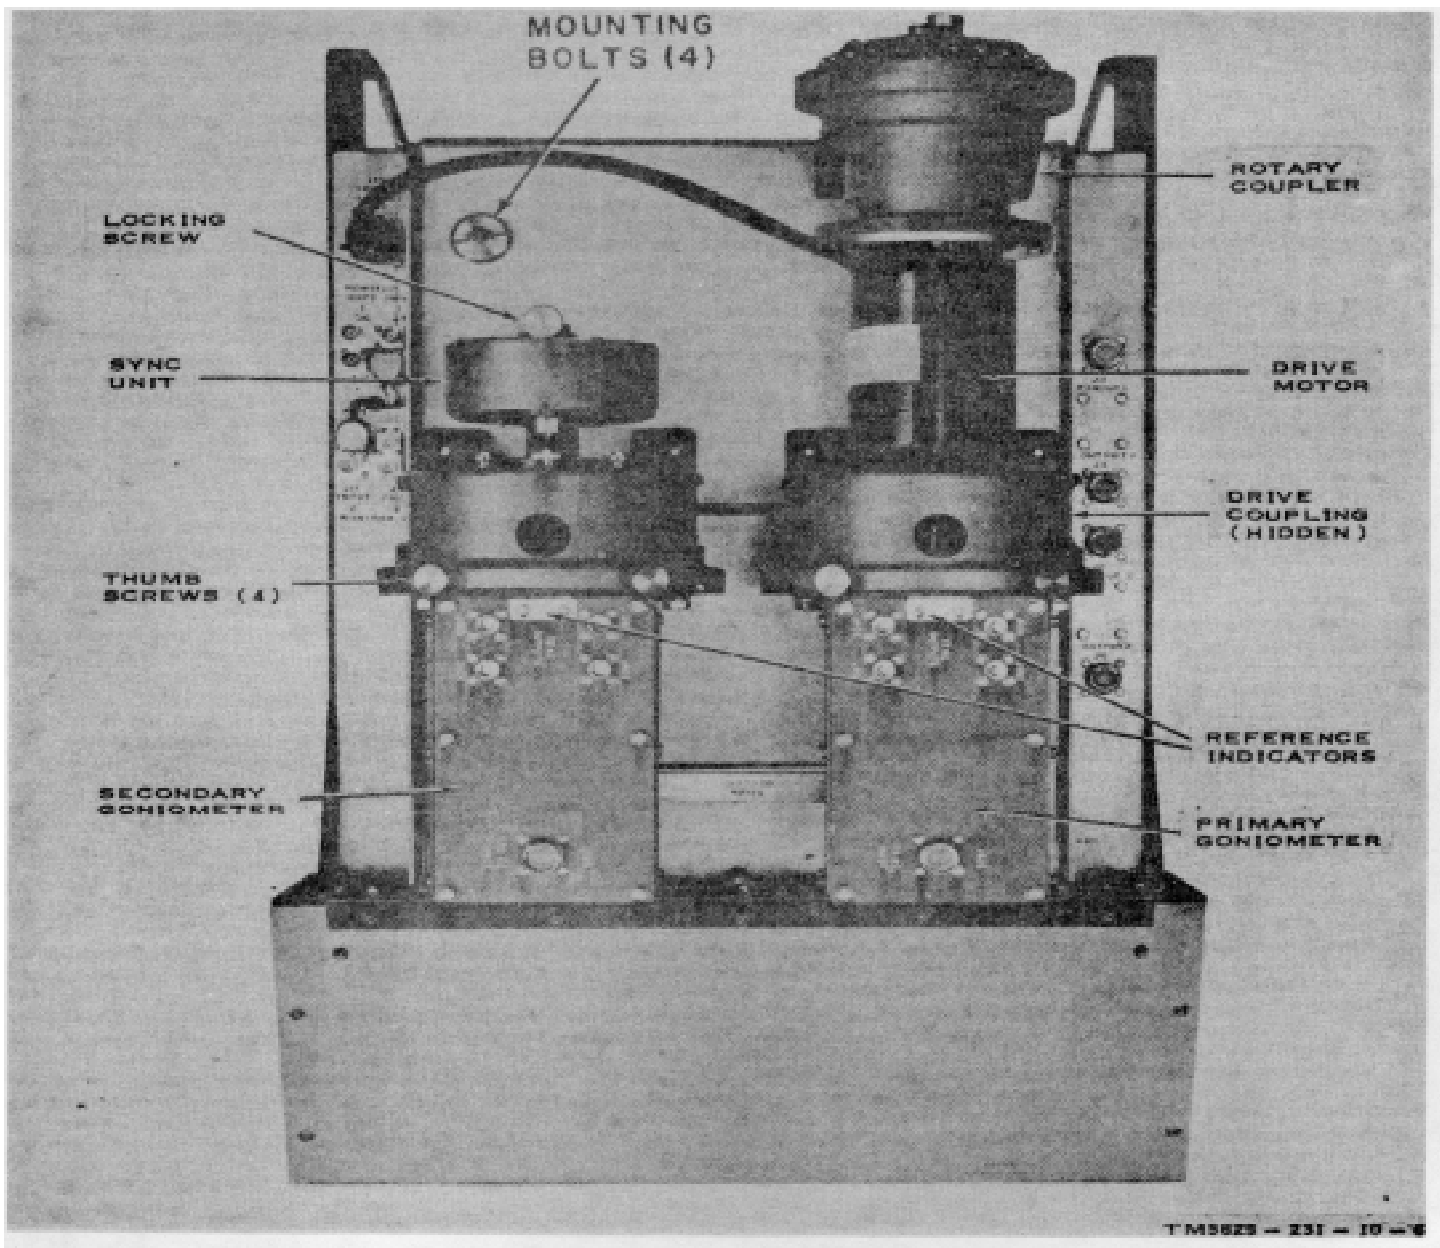

Figure 1-8. Drive, Goniometer-Rotary Coupler TG-126(\*)TRD.
**1-11. Drive, Goniometer-Rotary Coupler TG-126(\*)/TRD** (fig 1-8)